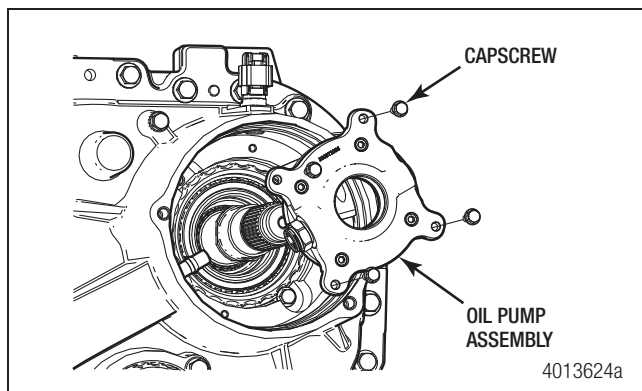

Figure 7.32
14. Slide the oil pump assembly down over the input shaft assembly and line up the bolt holes. Remove the plastic film from the input shaft. Figure 7.32.